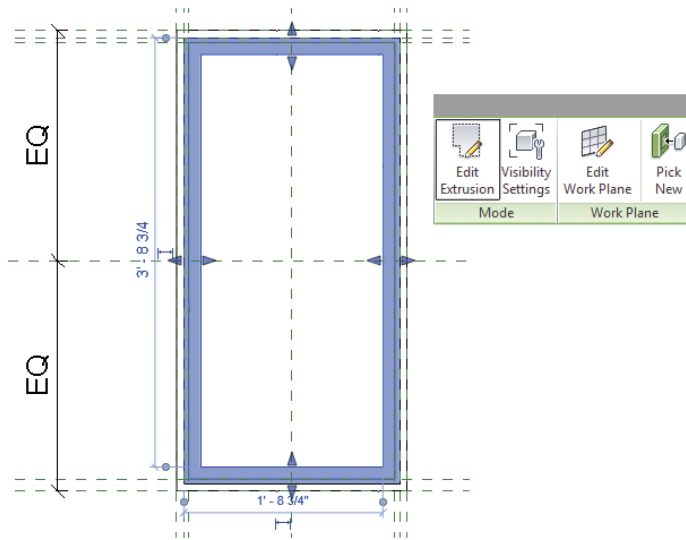

FIGURE 6.23 Frame/Mullion Extrusion
7. Select the Frame/Mullion Extrusion, and click Edit Extrusion from the ribbon (Figure 6.23).